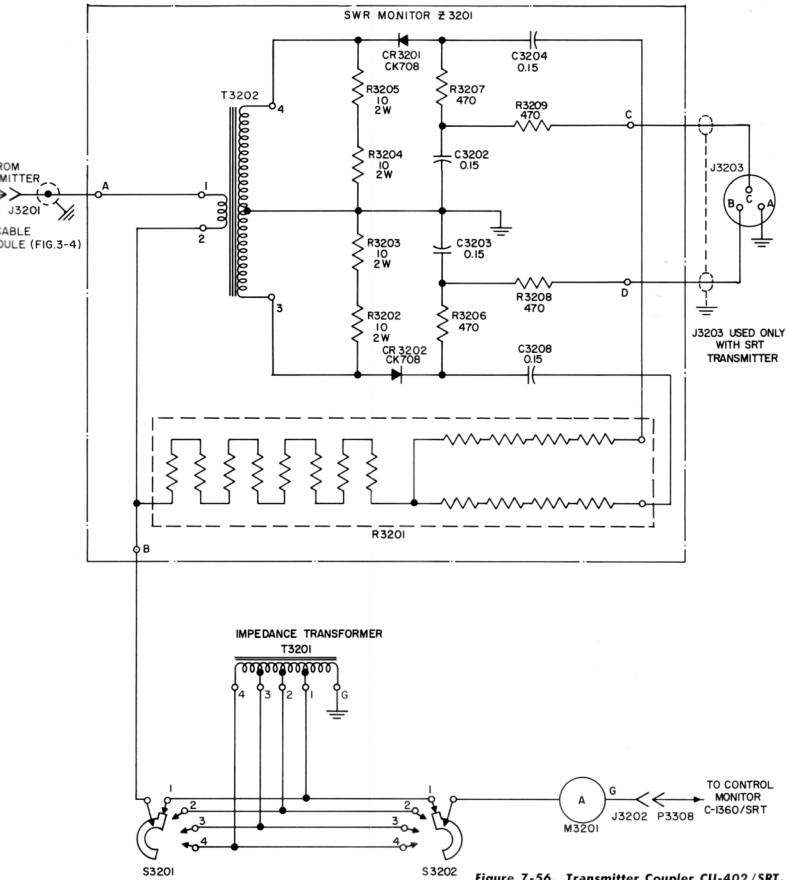

Figure 7-56. Transmitter Coupler CU-402/SRT, Schematic Diagram
b. SWR MONITOR CIRCUIT (Figure 7-56).— Operation of the Transmitter Coupler SWR Monitor is identical to that of the SWR Monitor contained in Control Monitor C-1360/SRT. The SWR Monitor section of the Transmitter Coupler is used only when the Transmitter Coupler is used with SRT transmitters. As the complete Antenna Tuning Group AN/SRA-18 is not used with the SRT transmitters the SWR circuit will not be discussed. For further information pertaining to the SWR circuit, refer to the appropriate SRT transmitter instruction book.